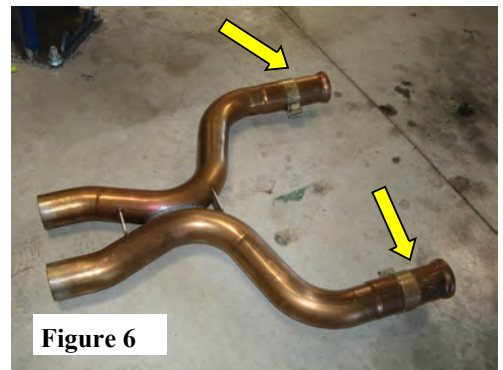

Figure 6
1. **(X-PIPE INSTALLATION for 140370, 140371, & 140372)** Install (2) Flared Nipples on front pipes using OE band clamps. Place an Accuseal clamp over each end of the expanded end of the X-pipe and insert into Nipples. Lightly tighten clamp. ****PLEASE REFER TO DRAWING ON PAGE 2 and See Fig. 6****